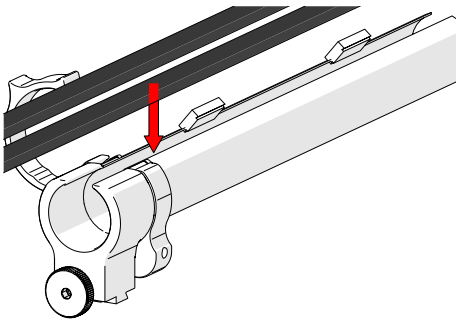

Fig. 65 - Insert cables and hoses
1. Open the cable management and cable latch. Begin at the tube's dovetail mount and place the cabling in the tube (Fig. 65).